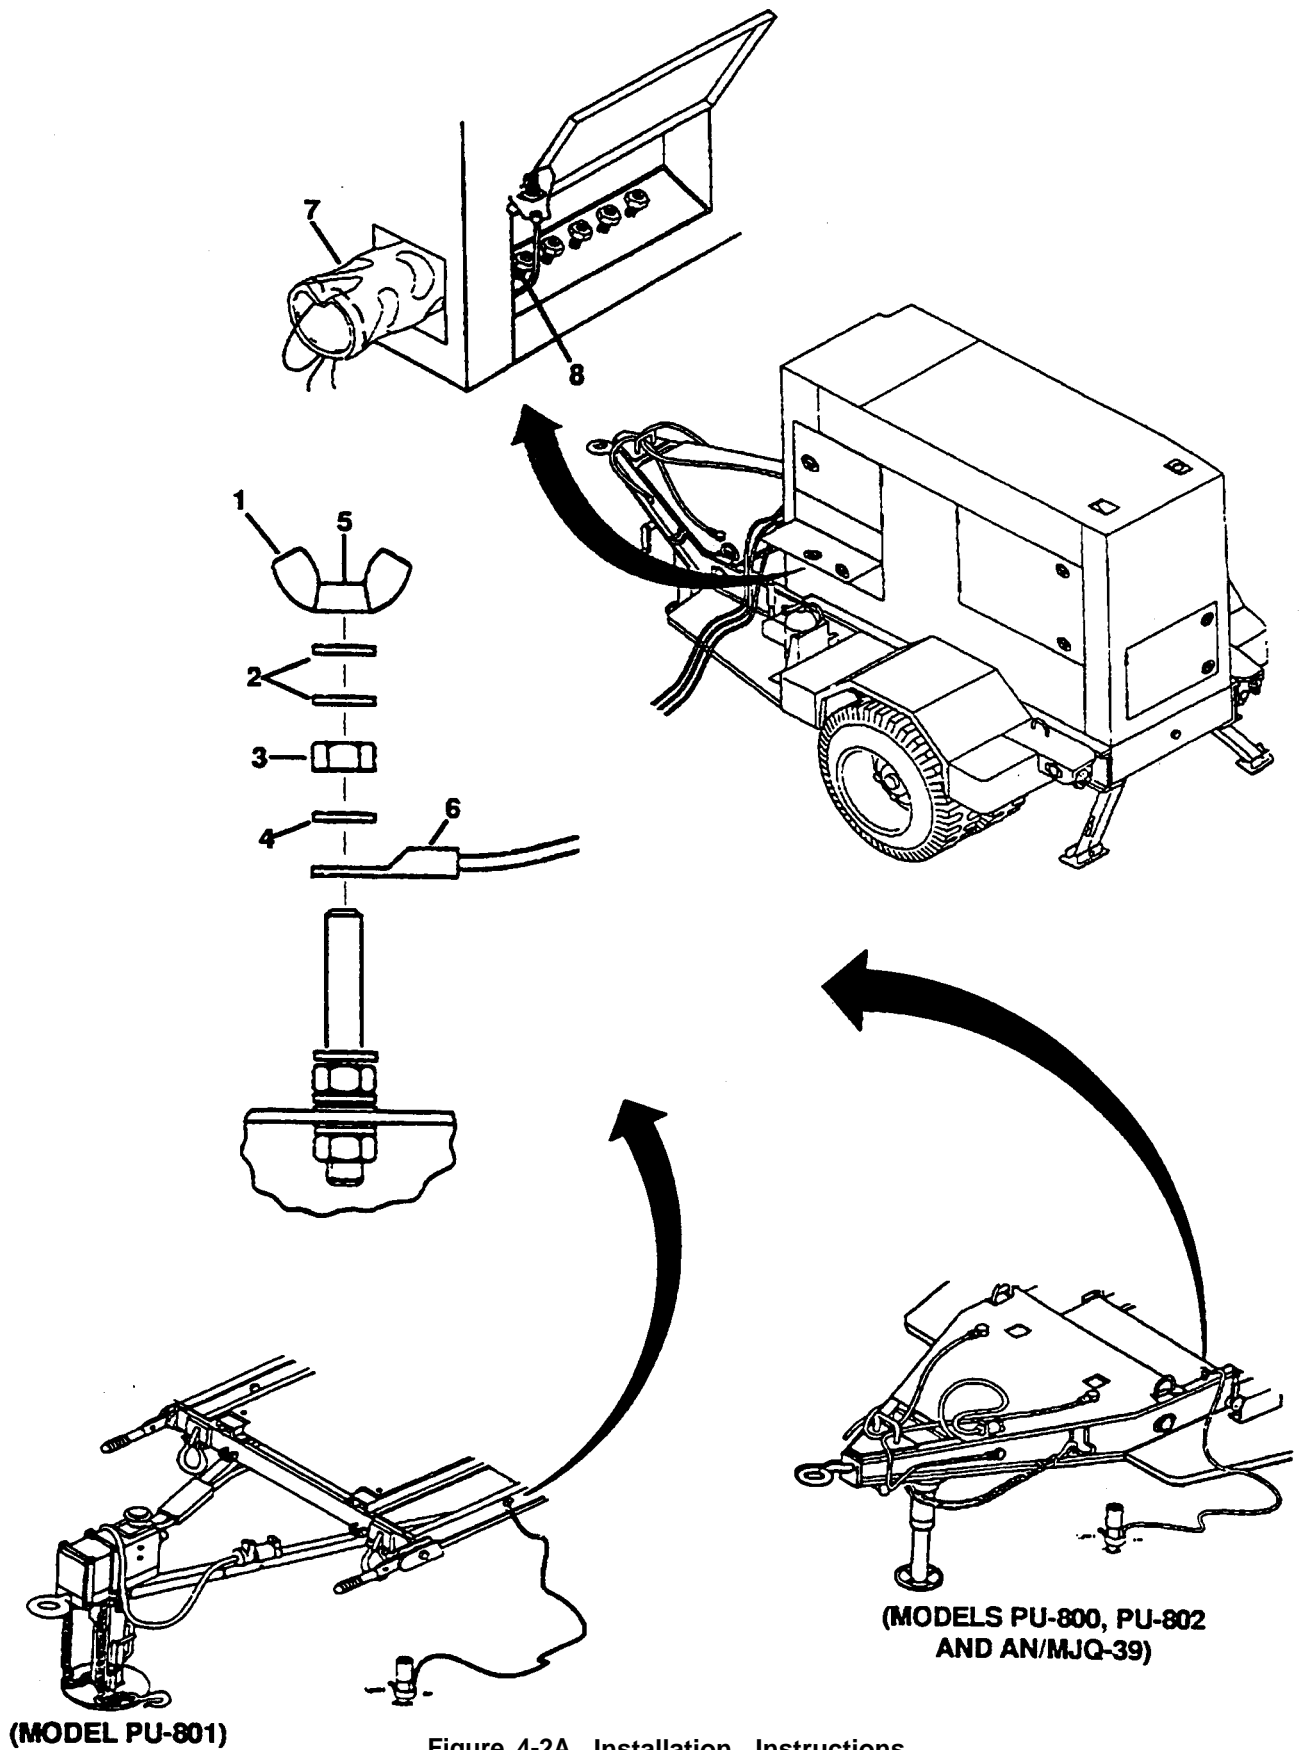

Figure 4-2A. Installation Instructions
Refer to figure 4-2A and assemble the AN/MJQ-39 as follows.
- (1) Remove wing nut (1, figure 4-2A) two flat washers (2), hex nut (3), and flat washer (4) from ground stud (5).
- (2) Place ground wire (6) over ground stud (5).
Refer to figure 4-2A as follows.
- (1) Remove wing nut (1, figure 4-2A), two flat washers (2), hex nut (3), and flat washer (4) from ground stud (5).
Refer to figure 4-2A and assemble as follows.